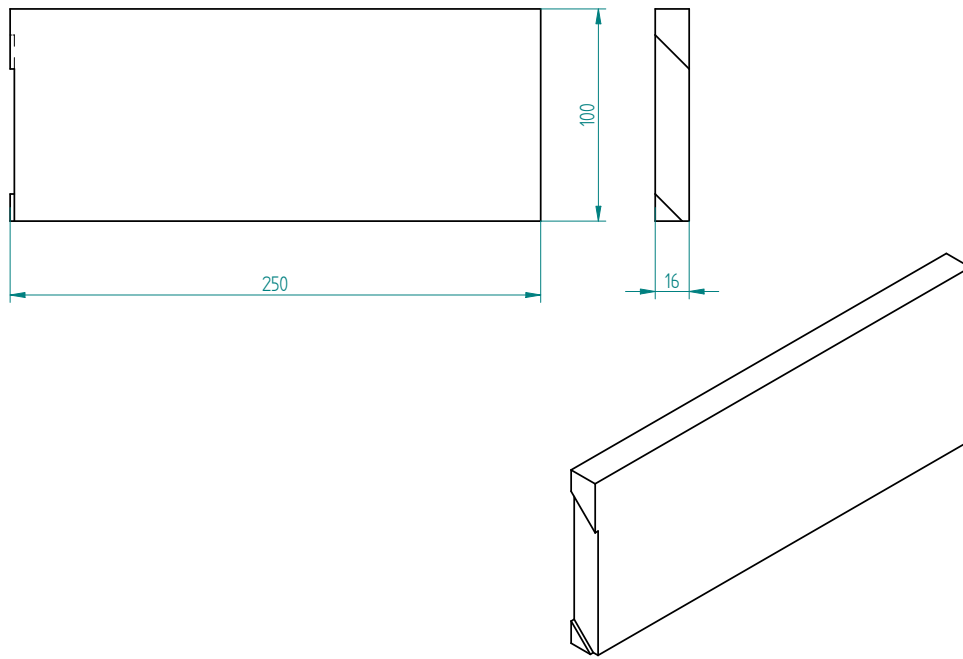

Figure 3.5: Shaped part : **face-1** for **perpendicular** tool
**Drawing** This is how the **face-1** looks at the end. See figure 3.5, page 85